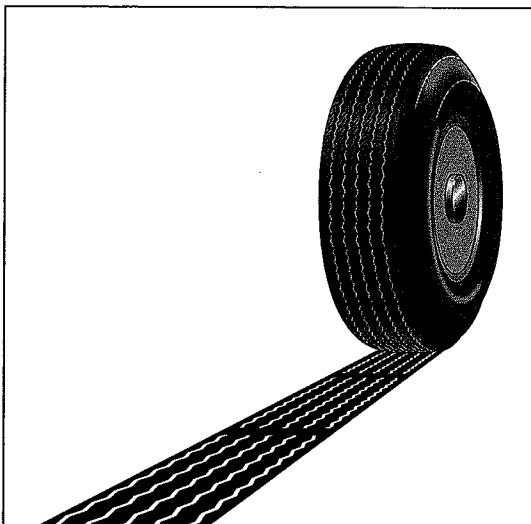

Figure 19-9:
- ✓ **Look at the treads.** Most tires have tread-wear indicators built into them (see Figure 19-9). These bars of hard rubber are normally invisible but appear across treads that have been worn down to $\frac{1}{16}$ of an inch of the surface of the tire (the legal limit in most states). If these indicators appear in two or three different places, less than 120 degrees apart on the circumference of the tire, replace the tire.